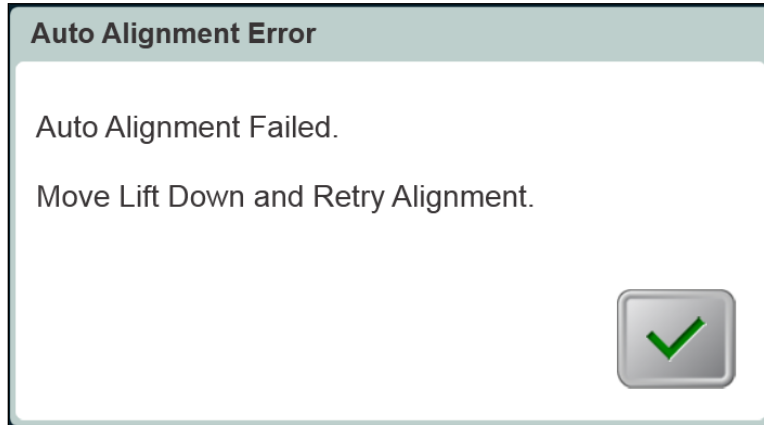

Figure 5-22. Z-Alignment Error
- Auto alignment may fail during any of the three processes for various reasons including the head being out of range, or poor image contrast. If so, an error message will appear as shown in Figure 5-22 to notify the user.